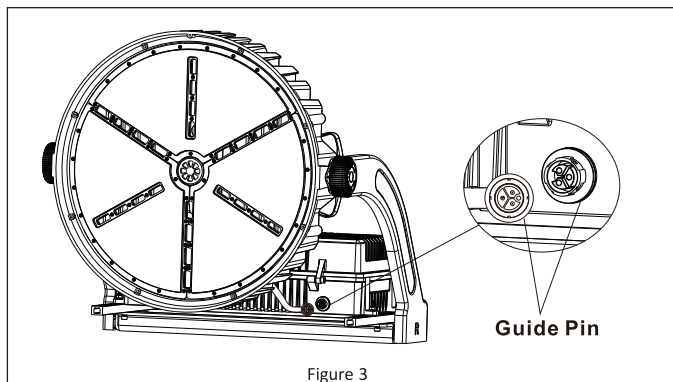

Figure 3
4. Plug the LED array into the driver box. Align the guide pin and seat the connector. Tighten the clockwise until the connector is snug. **See Figure 3.**